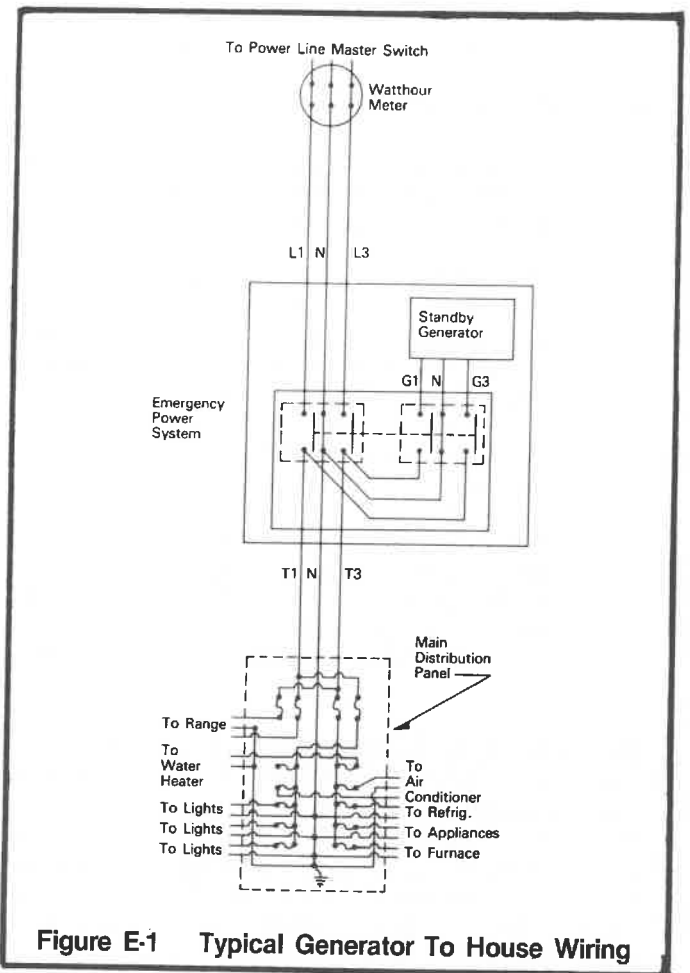

Figure E-1 Typical Generator To House Wiring
If your home wiring has not been modified and a manual transfer switch installed (Figure E-1) you will have to plug your appliances such as furnace blower, sump pump and other items to be powered directly into the generator receptacles.
2. Connect generator to house wiring circuits only through a fully isolated manual transfer switch. The transfer switch prevents damage to the generator and other circuit components if main line power is restored while the generator is connected. Installing a transfer switch also permits the use of normal fusing. See Figure E-1 for typical wiring example.